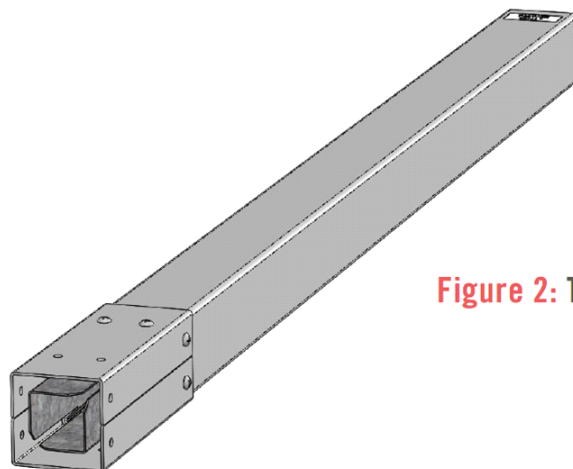

Figure 2: Top Pole Extension
- 1 Unpack the top pole extension. It comes assembled with mounting brackets and hardware as shown in Figure 2.